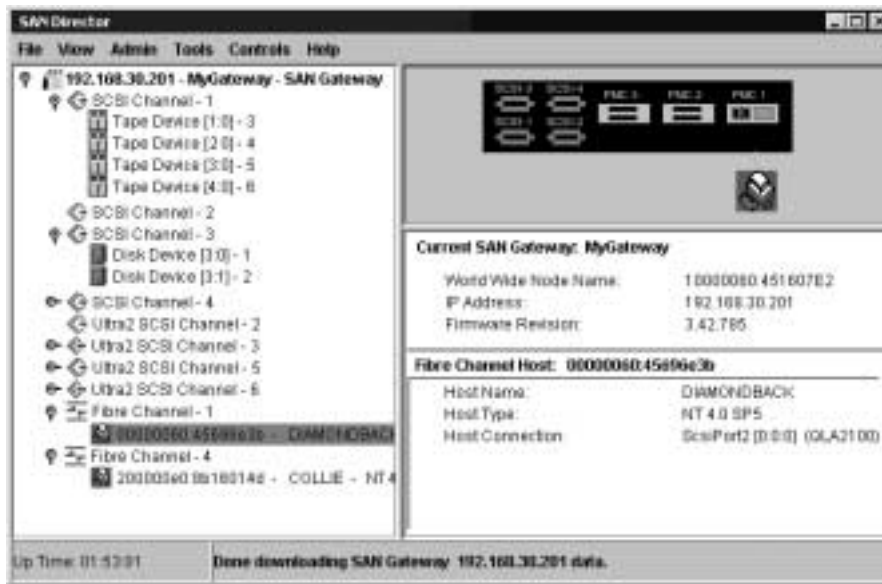
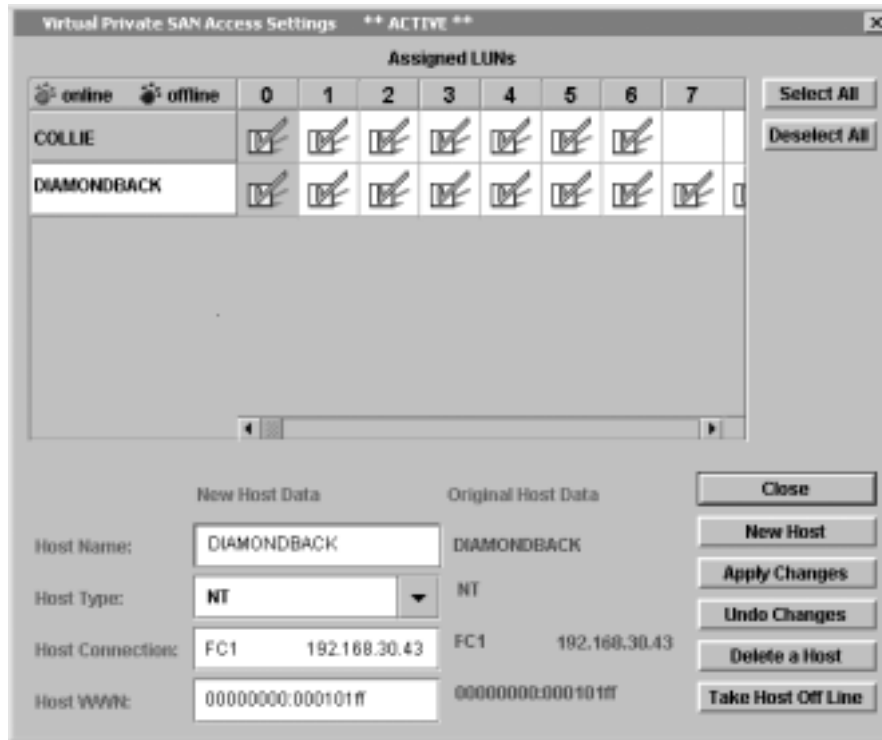

Figure 6-8: Two Hosts Online
Figure 6-10: Checking Access Settings Inherited from Hosts
hosts are displayed. Figure 6-8 is an example that shows how registered hosts are displayed.
In the Tree View panel of Figure 6-8, you can see that hosts are connected to the ADIC Gateway Fibre Channel ports 1 and 2. In the text string after the host icons in Tree View, you can read the WWN of the HBAs and the beginning of the network names of the computers. You can use the scroll bar to expand your view of this panel (see Figure 6-10) or you can read the host type, operating system,
- From the ADIC Management Console, select the ADIC Gateway. From the **Controls** menu, select **Access Options > Virtual Private SAN**. Figure 6-10 shows the Virtual Private SAN Access Settings window.